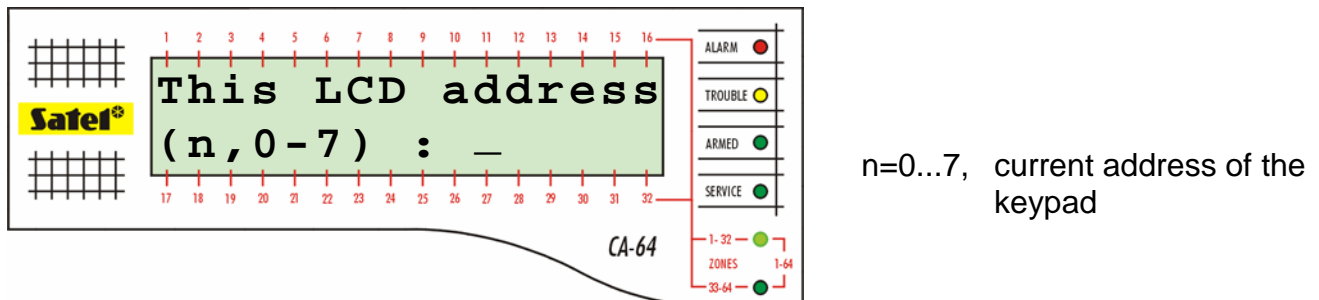

Fig. 18. Programming the keypad address
- On the displays of all keypads a message will appear as shown in Figure 18.